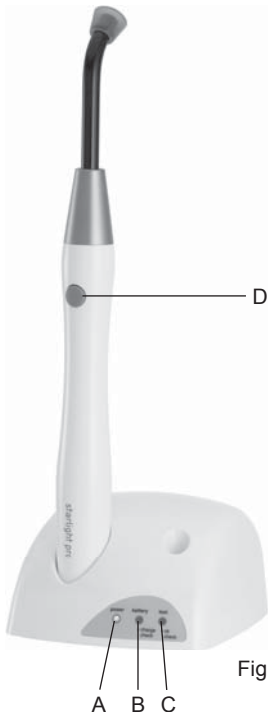
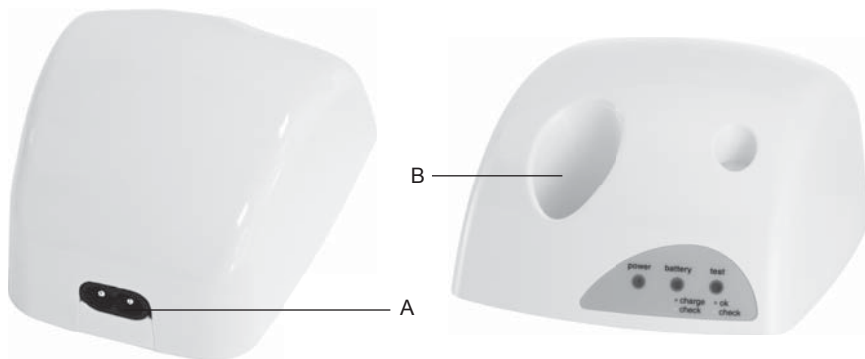

Fig. 4
Fig. 5
⚠ DANGER: Do not short circuit the electric contacts of the charging unit with metal objects (Fig.5 - Ref.B) and do not touch them with your hands while the equipment is switched on.
Description of the controls (Fig. 4):
- 2 Plug the power cable (Fig.3 - Ref.E) into the connector on the rear of the equipment (Fig.5 - Ref.A) and then into the power outlet. The green power LED should light up (Fig.4 - Ref.A).
- 1 Insert the handpiece into its housing in the charging unit (Fig.5 - Ref.B). The green battery LED will light up (Fig.4 - Ref.B).
- 1 Place the handpiece in its housing in the charging unit (Fig.5 - Ref.B). The green battery LED will light up (Fig.4 - Ref.B).
If the yellow battery LED (check) on the charging unit lights up, this indicates that the battery has failed (Fig.4 - Ref.C).
After the end of the treatment, place the Starlight pro handpiece back into the charging unit (Fig.5 - Ref.B).